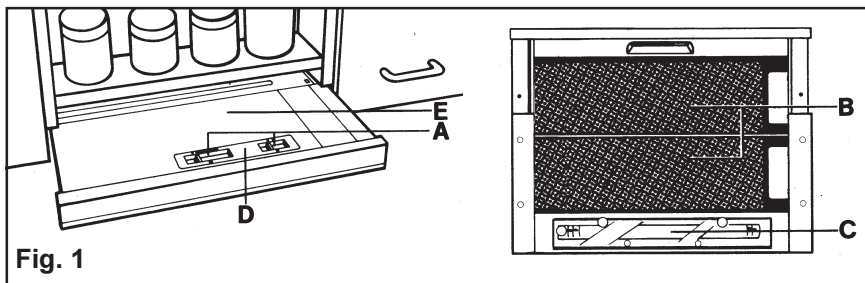

Fig. 1
- The switches are mounted on the upper right side of the visor (**Fig. 1 - E**).
1. Pull out the visor (**Fig. 1 - E**).